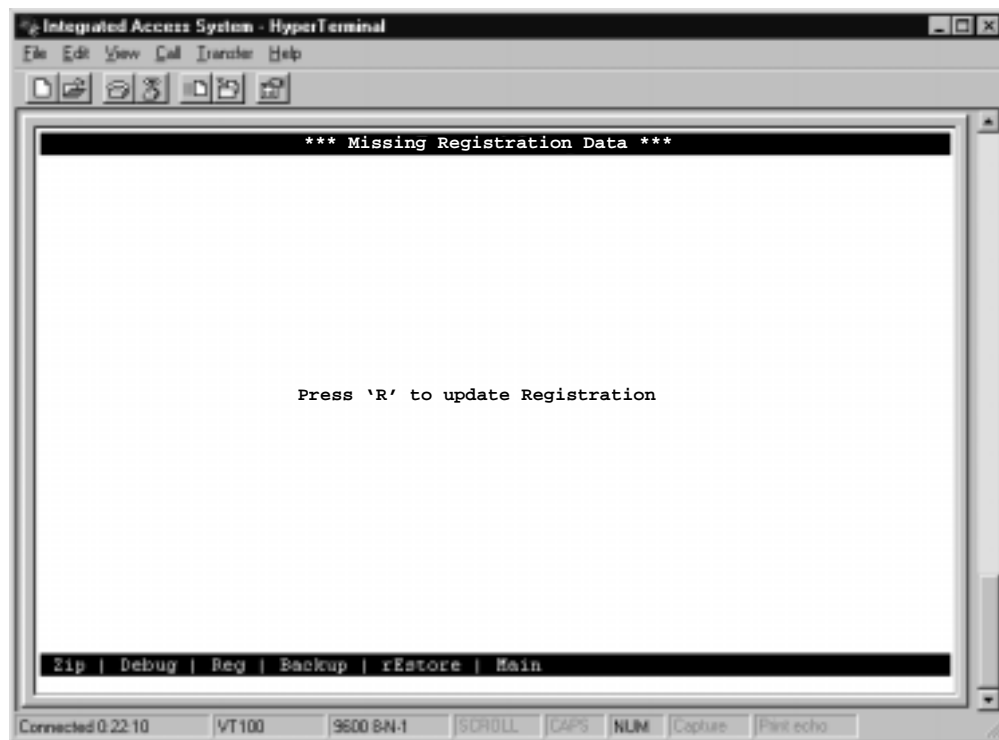

Figure 4-1. First Time Registration Screen
4. Press the RETURN key. The Registration Screen in Figure 4-1 appears.